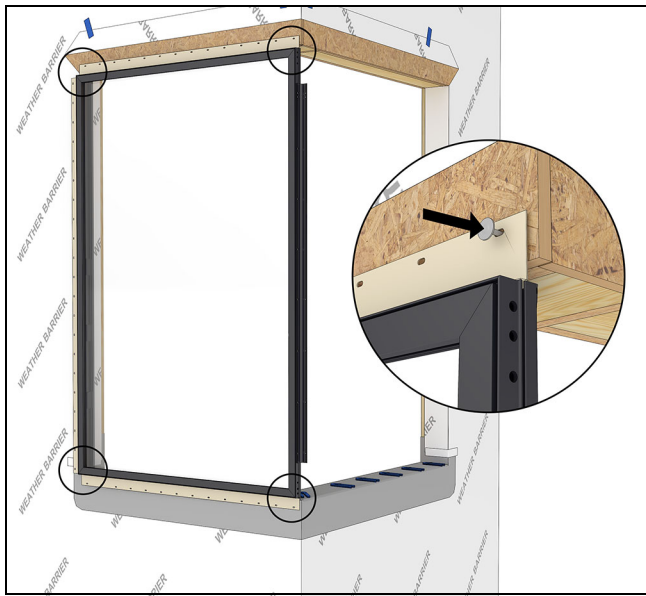

Figure 40
4. Temporarily fasten the unit into the RO by tacking the nailing fin with a 2" roofing nail. See Figure 40.